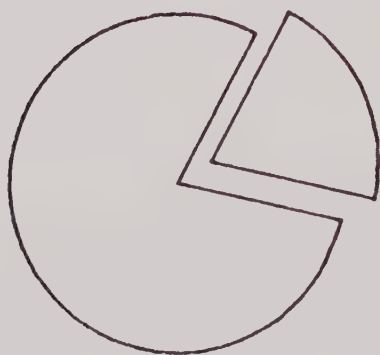

**FIGURE 2-12
15. Note that the test plot is scaled as shown in Figure 2-12. The important thing to note is that the window data has been scaled approximately twice original size. The aspect is correct since the proportions of the original plot were used by the plotter to calculate the correct aspect ratio.